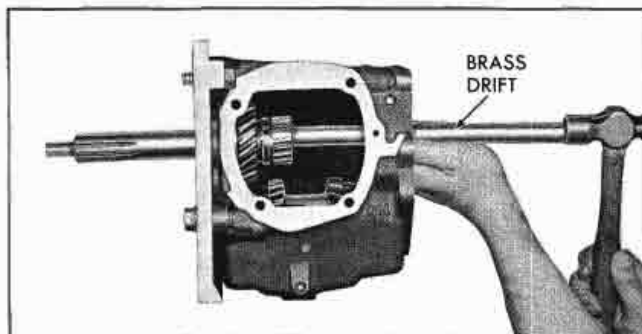

Fig. 7-49 Installation of Main Drive (Clutch) Gear Assembly
5. From inside case, push main drive (clutch) gear assembly through opening in front face of case and, using a brass drift, tap the clutch gear assembly until the clutch gear bearing locating ring groove is outside the front of case. Assembly must be driven straight to prevent damage to bearing (Fig. 7-49).